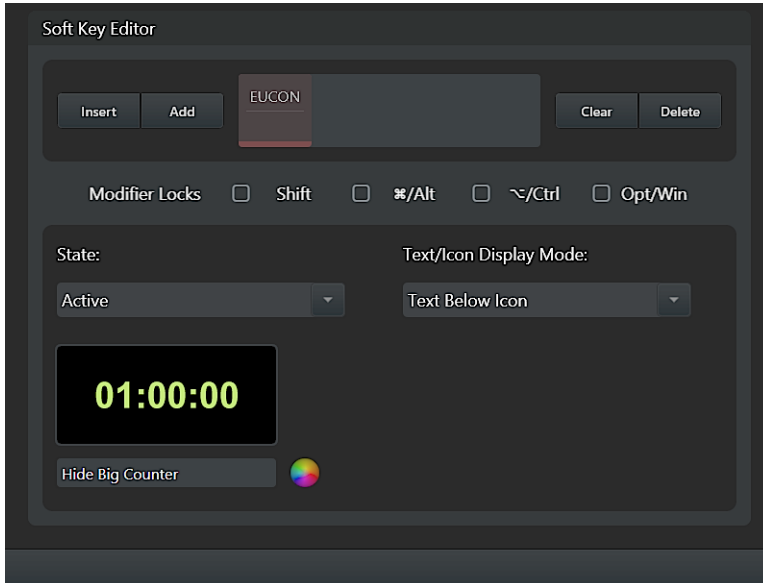

Figure 56. Active state example
- Repeat for the other state (if you defined display characteristics for the Inactive state, now choose Active and choose an icon, enter a name and choose a color). In the example Soft Key we created for the Big Counter, we defined text for the Active state as “Hide Big Counter” as shown in Figure 56.